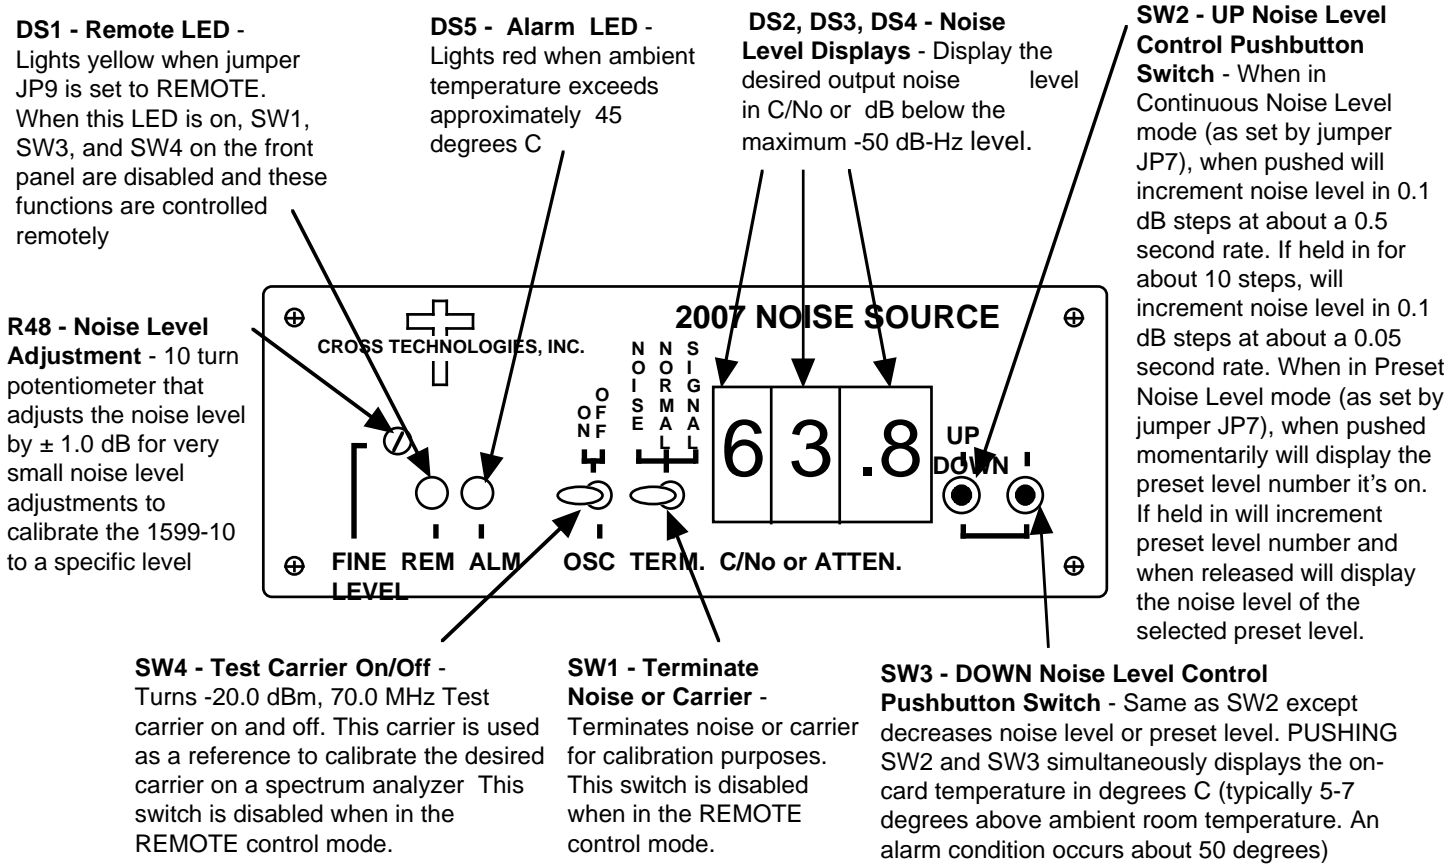
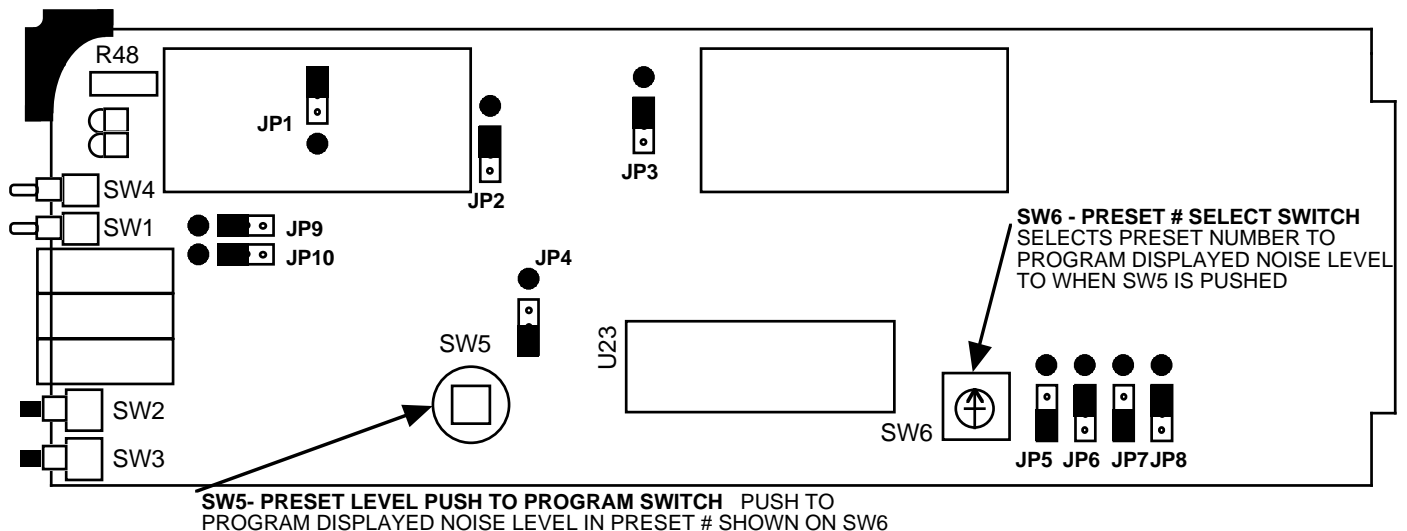

FIGURE 2.2 2007 Front Panel Controls and Indicators
FIGURE 2.4 2007 On-Card Jumpers and Controls
2.2 Controls and Indicators - Figure 2.2 shows front panel controls and indicators.
2.4 Accessing and Changing On-Card Jumpers and Controls - Figure 2.4 shows jumpers (with factory settings) and other on-card controls. To remove the printed circuit board (PCB) from the extrusion for access to the jumpers and controls:
- 3.) With the **power supply disconnected**, move jumpers to the desired positions (Fig 2.4).
- 7.) Install four (4) **rear panel screws**.
- 1.) If required, check that on-card jumpers are set to the desired positions (Figure 2.4)
- 4.) Set the desired noise level by pushing SW2 or SW3. If numbers 0 to 9 appear when pushing SW2 or SW3, the 2007 is set for the preset level mode (with on-card jumper JP7, Figure 2.4).
- 5.) Be sure DS1 and DS5 are off (Figure 2.2).
- 8.) If needed, R48 can be adjusted (Figure 2.2) to SLIGHTLY adjust the noise level.
2.5.3 Noise Level Setting, Preset Level Mode - Preset level selection is accomplished when the on board, but not front panel accessible, three-pin jumper (JP7) (Figure 2.4) is set to the “preset level” (DOT) position. Ten preset levels (0-9) can be selected as follows:
1. Remove the 2007 PCB (see section 2.4) to access the preset level selecting decimal switch (SW6) and the push to program switch (SW5) (Figure 2.4). With the display mode jumper (JP7) set in the noise level mode, the noise level set switches (SW2, SW3) are pushed to the noise level desired (Figure 2.2).
2. The decimal switch (SW6) is set to the preset level number desired to be programmed (Figure 2.4).
3. The programming button (SW5) is pushed to program the currently displayed noise level into that preset level number (Figure 2.4).
(Figure 2.4) and observe yellow LED DS1 (Figure 2.2) is on. Serial ASYNC (8N1) data is received via RS232C receiver U21 and sent via RS232C transmitter U38 at a 2.4 kB/s data rate. When in the remote mode, either continuous or preset noise levels can be adjusted, but programming of the preset levels can only be done locally. The 2007 noise power settings can be automatically calibrated with an HP3708A Noise Test Set. Contact Cross Technologies, Inc. (770-886-8005) for details.
3.2.3 Noise Level Setting, Preset Level Mode - Preset level selection is accomplished when the on board, but not front panel accessible, three-pin jumper (JP7) (Figure 2.4) is set to the “preset level” (DOT) position. Ten preset levels (0-9) can be selected as follows:
1. The 2007 is placed on an extender card to access the preset level selecting decimal switch (SW6) and the push to program switch (SW5) (Figure 2.4). With the display mode jumper (JP7) set in the noise level mode, the noise level set switches (SW2, SW3) are pushed to the noise level desired (Figure 2.2).